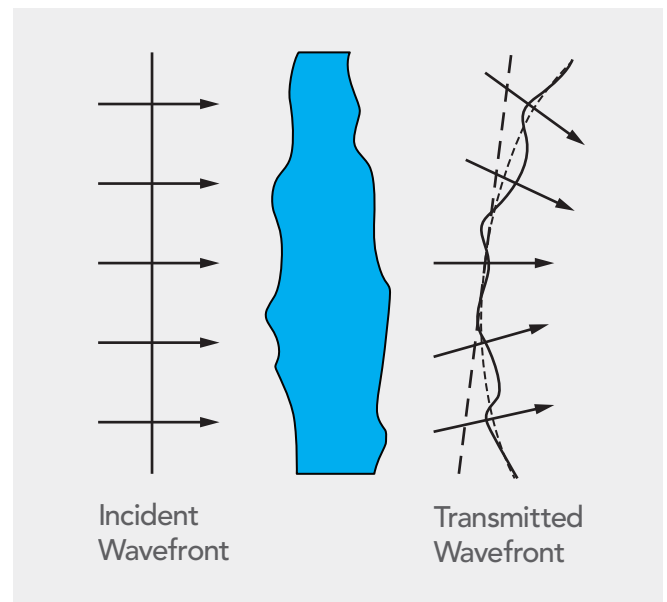

FIGURE 16. TWE (exaggerated surface deformation).
TWE can be specified as an absolute (peak-to-peak) error or as an RMS (root-mean-square) error, or both. Generally, it is not difficult to control TWE to meet the most common tolerances (typically $\lambda/4$ to 1λ , RMS). For most transmissive filters, only TWE matters as the wavefront transmitted through the filter is of interest and not the reflected light. TWE is illustrated in Figure 16. In this example, TWE has several components. (1) Wedge causes an overall deflection of the beam in one direction (dashed line). (2) Spherical error, due to the optic being thicker in the middle, causes the wavefront to globally bend and start to focus (dotted line). (3) Other surface and refractive index variations cause higher order bumps in the wavefront.